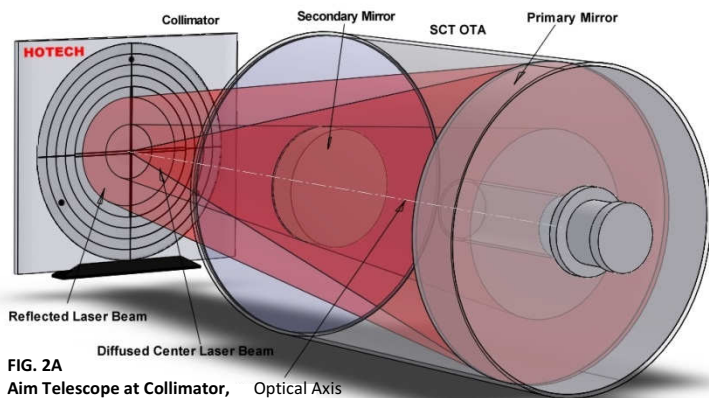
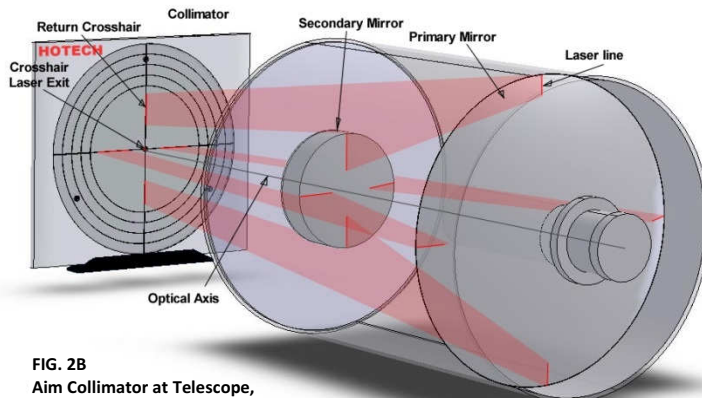

FIG. 2A
FIG. 2B
Basic Co-Alignment of the Telescope & Collimator – Basic Co-Alignment is achieved when the collimator and telescope are centered and squared on the optical axis of the telescope's primary objective mirror and each other. The diffused laser crosshair (diffuser strip in place) is projected from the center of the collimator as a guide to optically aiming the primary mirror back to the center of the collimator target plate. Diffusing the laser crosshair causes it to appear as a circular or donut shaped beam (the crosshair pattern is no longer visible – just the outer crosshair dimension is preserved as a circle). Centering the donut beam, centers the collimator on the telescope optical axis (FIG. 2A, Aim Telescope at Collimator, diffuser strip installed). Then, without the diffuser (crosshair now seen crisp and sharp), center the return laser crosshair reflected from the telescope primary mirror in order to adjust the collimator to be perpendicular (square) to the telescope's optical axis (FIG. 2B, Aim Collimator at Telescope, diffuser strip removed). Most of the time needed to achieve collimation is spent on the initial steps to achieve accurate Basic Co-Alignment of the collimator and telescope. Be patient and careful; the results will be well worth it!
3. Aim Telescope at the Collimator (FIG. 2A)
4. Aim Collimator at the Telescope (FIG. 2B)